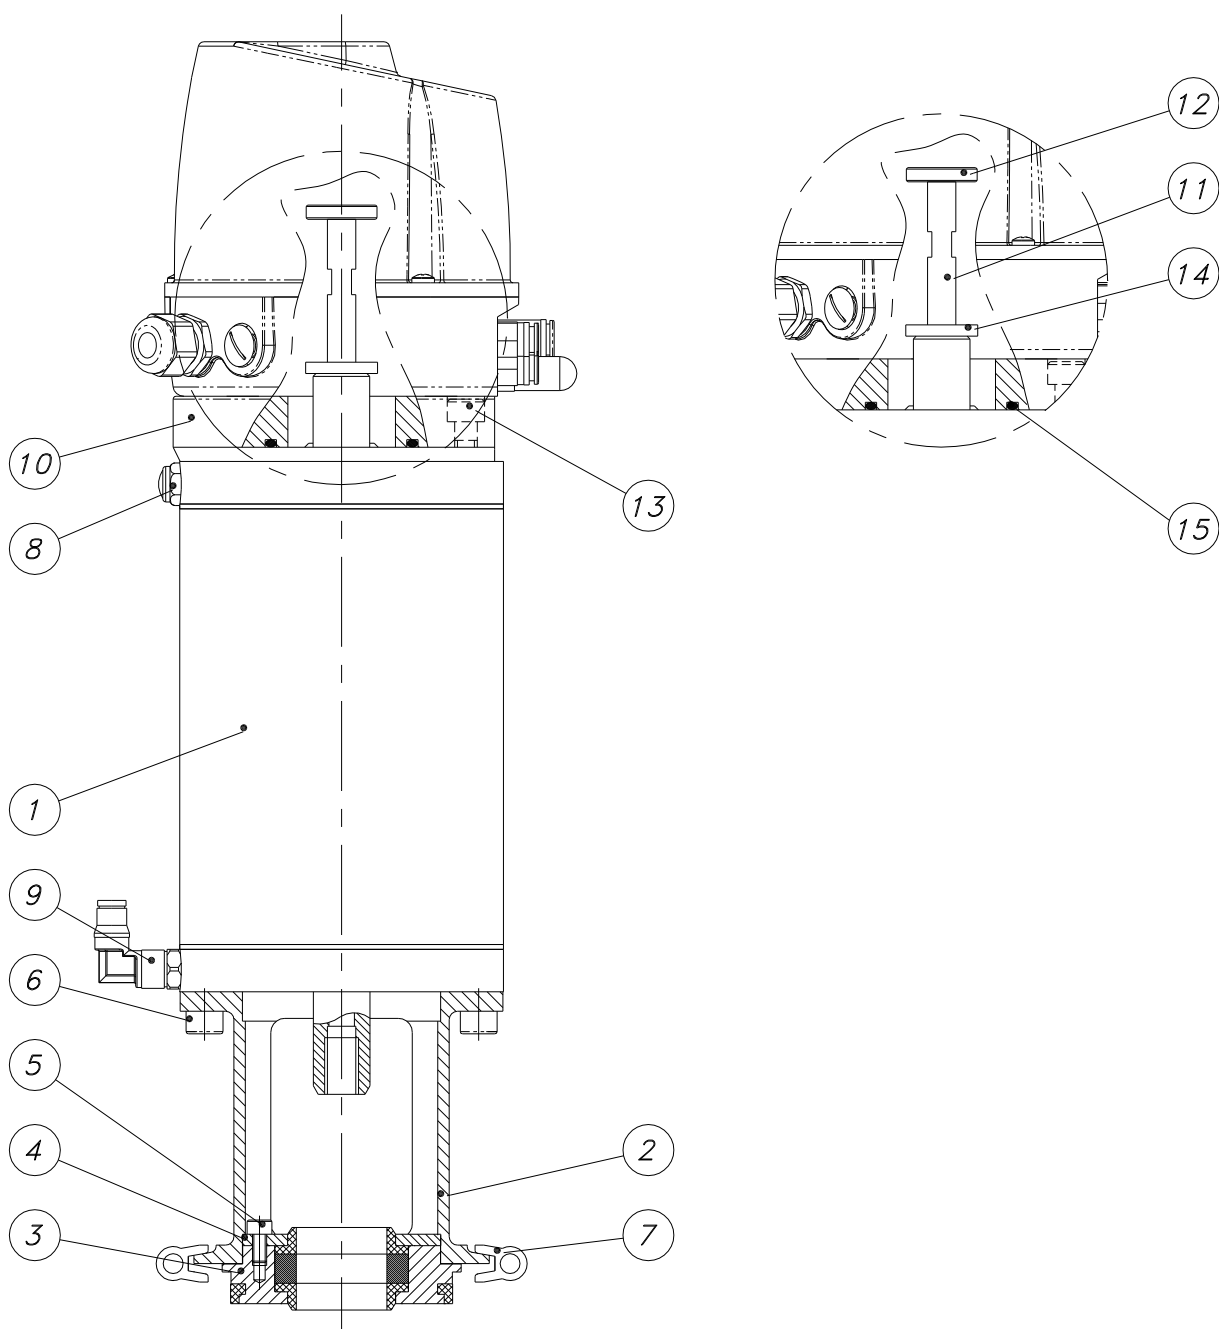

Fig MBCSP4
9.0 ACTUATOR COMPONENTS (Fig MBCSP4)